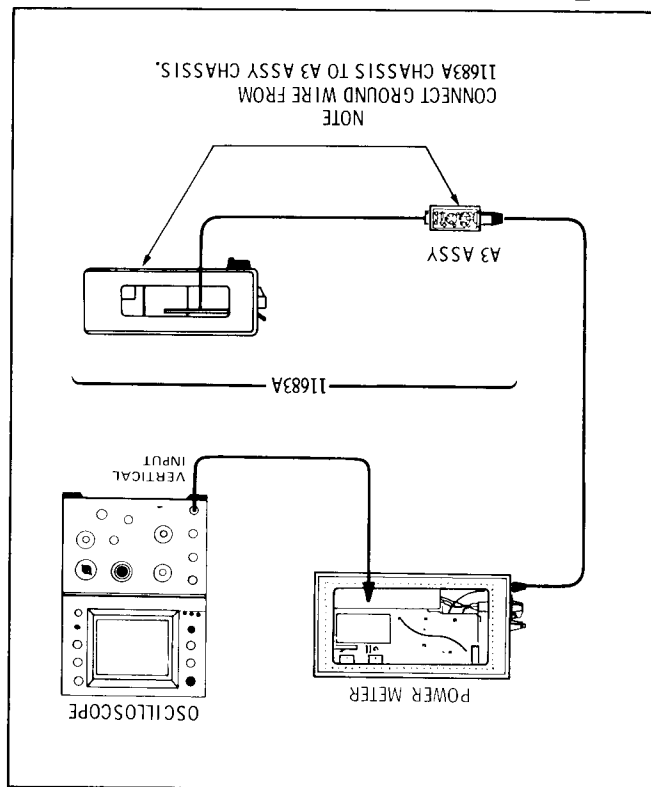

Figure 9. FET Balance Adjustment Setup
b. Connect the equipment as shown in Figure 9. (The oscilloscope probe will be coupled to TP4 if the HP 435A Power Meter is being used.)